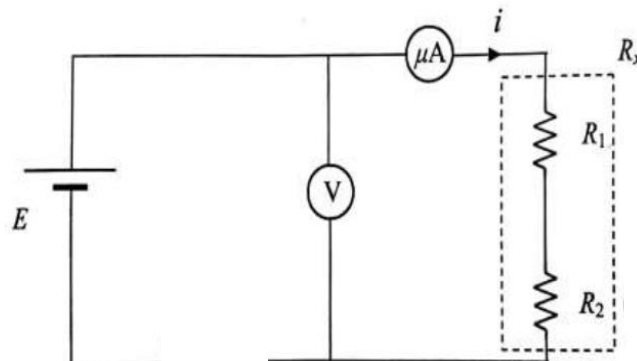

Figure 04: Resistors in Series
- Setup the circuit as shown in Figure 04.